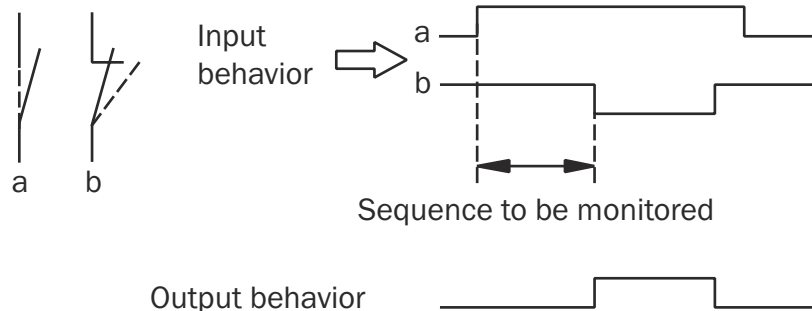
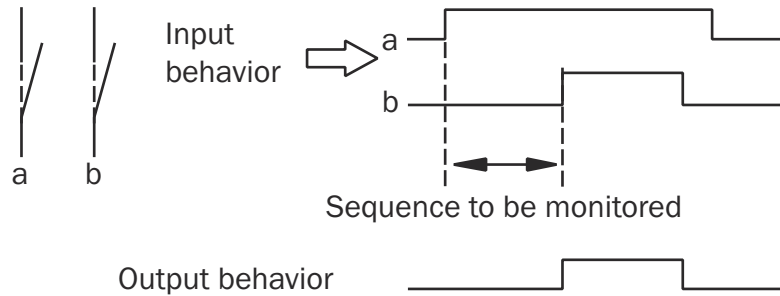
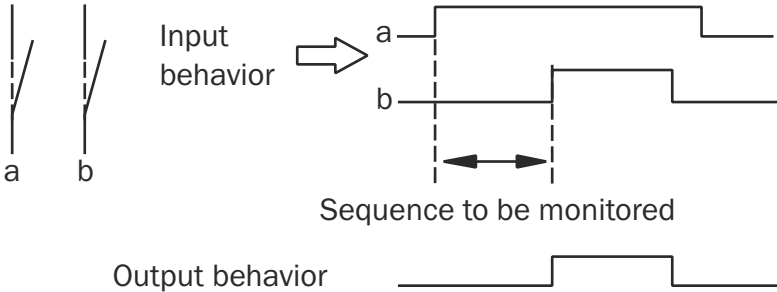

Figure 2: Switching behavior RE11, RE21 (unactivated)
Figure 5: Switching behavior RE13, RE23 (unactivated)
Figure 9: Switching behavior RE27 (unactivated)
- Both contacts must change output state, before it can be reset. Compliance with this sequence must be monitored by the safe evaluation unit (figure 2 figure 5 figure 9).